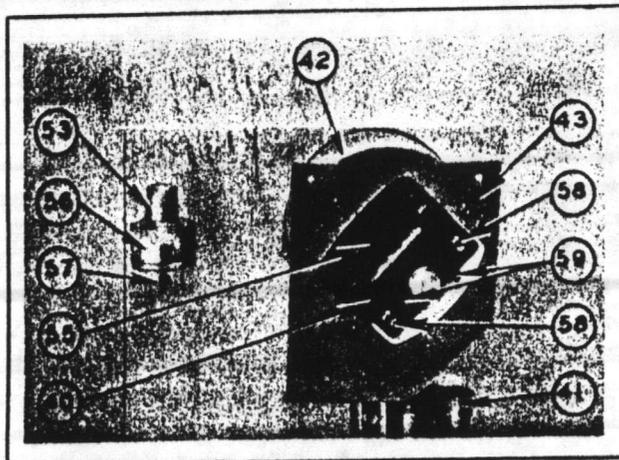

FIGURE 11. ELECTRIC CHART DRIVE PARTS
3. Rotor and pinion only shown in Figure 11. (Items 53, 56 & 57).